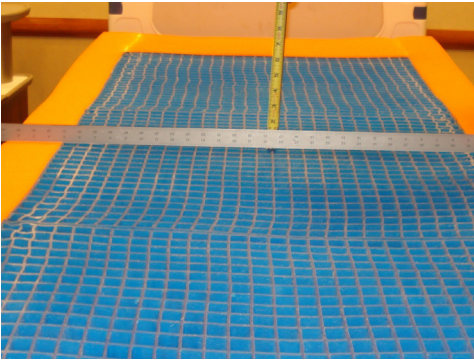

Figure 5
5. Place a straight edge (at least 35" (88,9 cm) long) across the foam from left to right at the sacral region (patient seat section) of the support surface as shown in Figure 5.